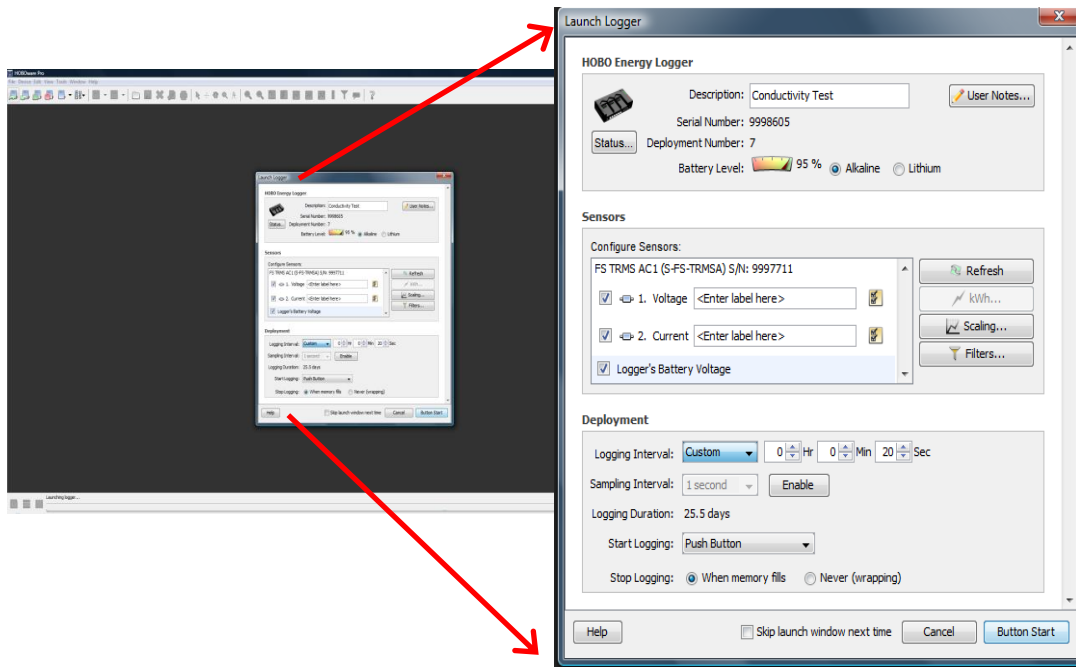

Figure 4. Adjusting the Logging Interval
5. A Data Logger Launch window will open up as seen in Figure 4 below. Adjust the logging interval to 20 seconds. *For test purposes, 20 seconds is sufficient. Your actual test will need the interval to be set to 2 minutes. Don't forget to change it to 2 minutes when the initial bench check is complete.* In the launch options box (the big white box at the bottom of Figure 4), confirm that the "Trigger: Push Logger Button" is selected. Doing so confirms that data logging starts only after you push the start button (explained later in the user manual). Push the "Launch" button at the bottom of the window after doing so.